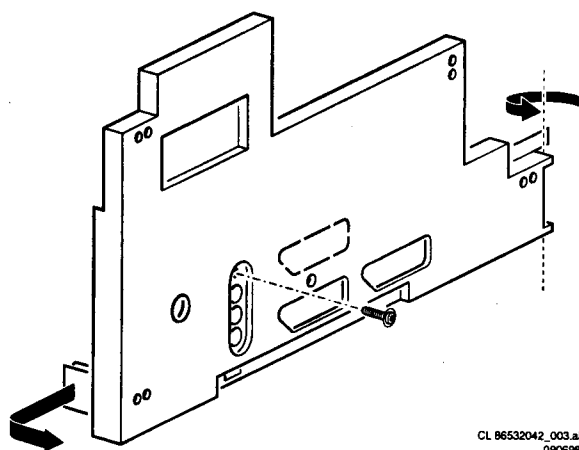

Figure 4-2
1. Remove 1 screw in case of 2-scant I/O-backplate and 2 screws in case of a 3-scant I/O-backplate. (See figure 4.2)